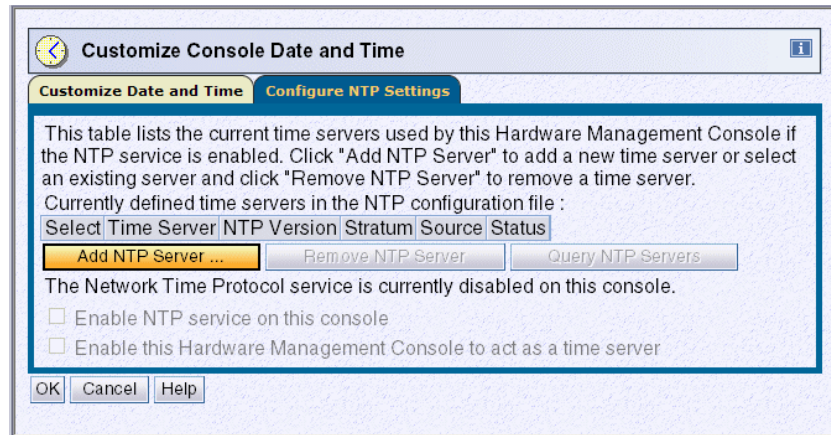

Figure 1-80 Customize Console Date and Time
4. Reconfigure the HMC to act as server. To configure an NTP server on the HMC, click **Customize Console Date and Time** at the appropriate HMC. This task is available in the HMC Management section. Selecting the **Configure NTP Settings** tab displays a window (Figure 1-80).